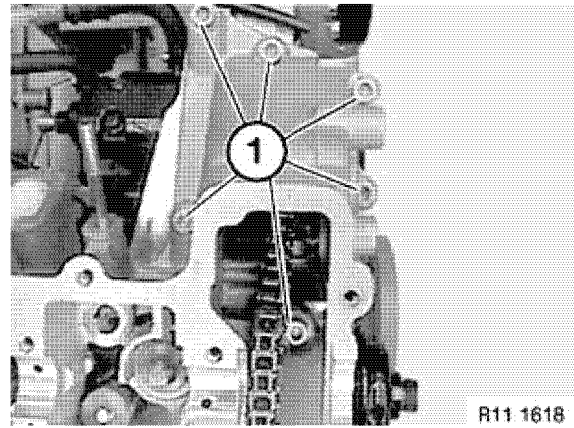

Figure 5-16
20. Remove timing case cover bolts (1, Figure 5-16).